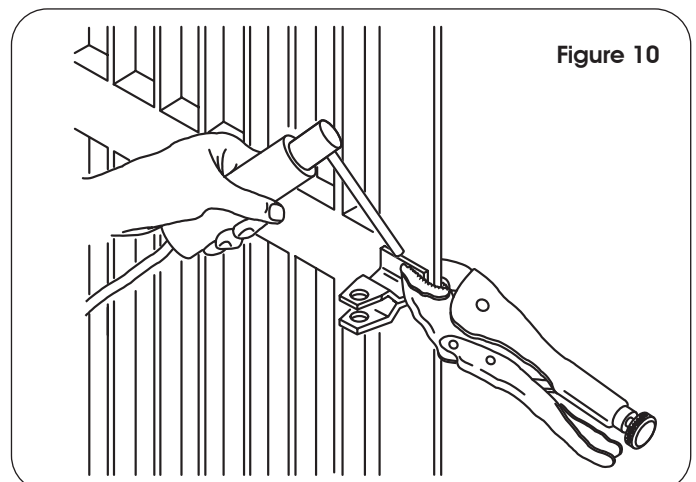

Figure 10
- 11.) Temporarily release the operator from the bracket and then permanently weld the bracket to the leaf. **Prevent welding slag from damaging the rod.** (Fig.10). If welding is not feasible, secure the front and rear attachment plates with screws.